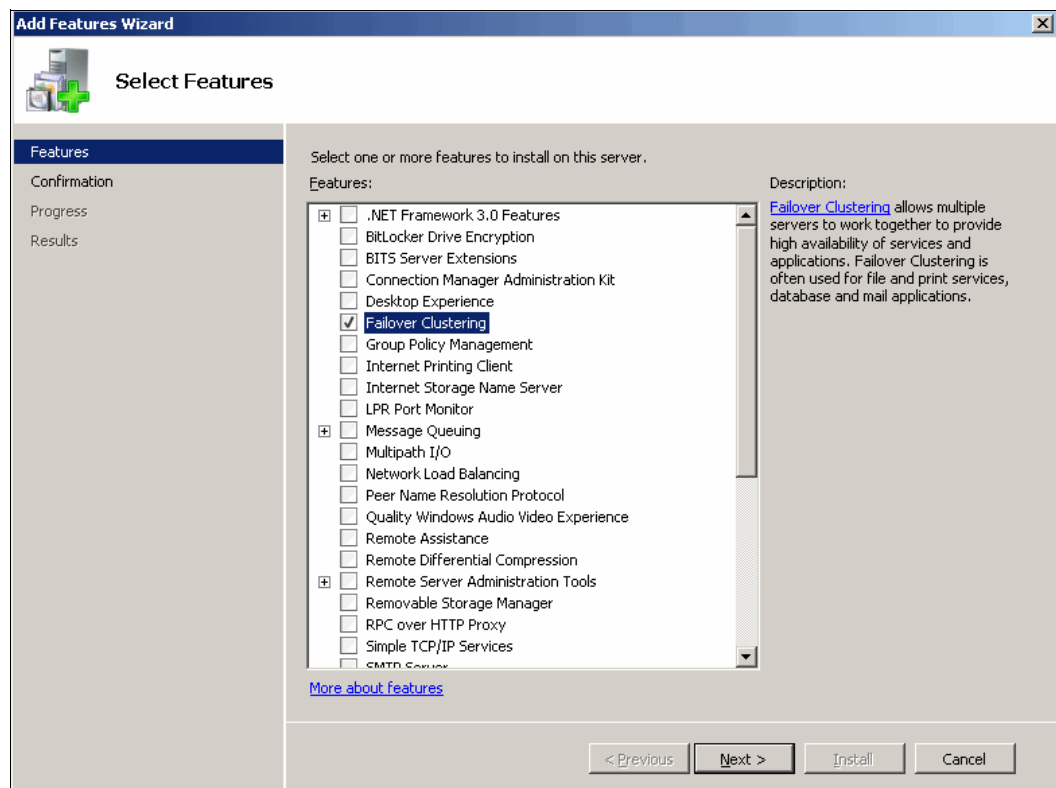

Figure 19-10 Enabling the Failover Clustering
2. In the Select Features window, select the feature **Failover Clustering** as shown in Figure 19-10 and click **Next**.